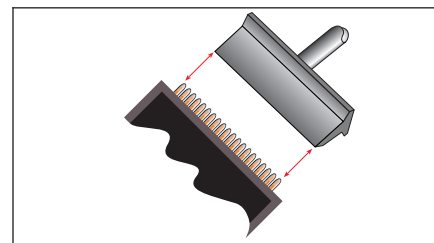

Figure 1 Select Tip
1. Select a blade tip appropriate for the component being soldered and the clearances available on the board. The tip should allow each row to be soldered in one pass. (See Figure 1.)